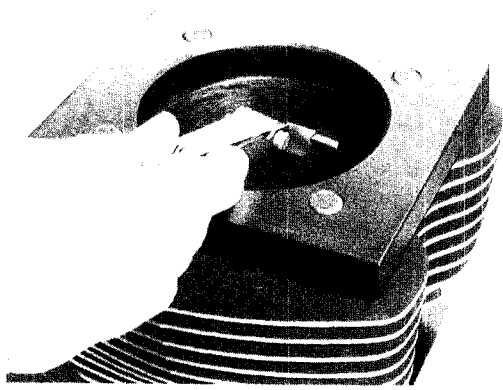

Figure 3-121. Measuring Ring Gap
1. See Figure 3-121. Check ring end gap of each ring before placing on the piston. Insert the **new** ring into the cylinder and square it in the bore using the top of the piston. Measure the ring end gap with a feeler gauge. Refer to Table 3-37.